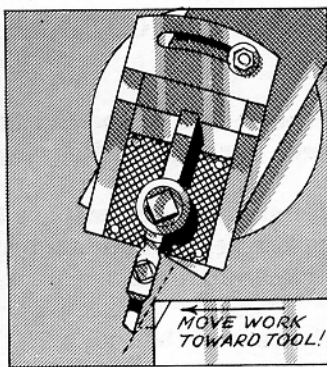

FIG. 416
9. Move the table horizontally until the work is near the tool (Fig. 416).